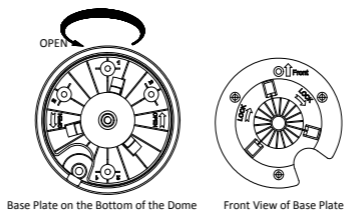
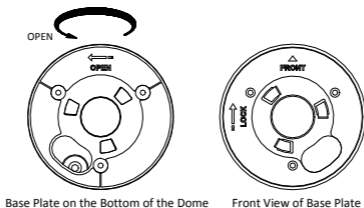

Figure 2-20 Base Plate for Type II PTZ Camera
Figure 2-21 Base Plate for Type II (IR) PTZ Camera
1. Rotate the base plate counterclockwise to separate it from the PTZ camera, as shown in Figure 2-20 and Figure 2-21.